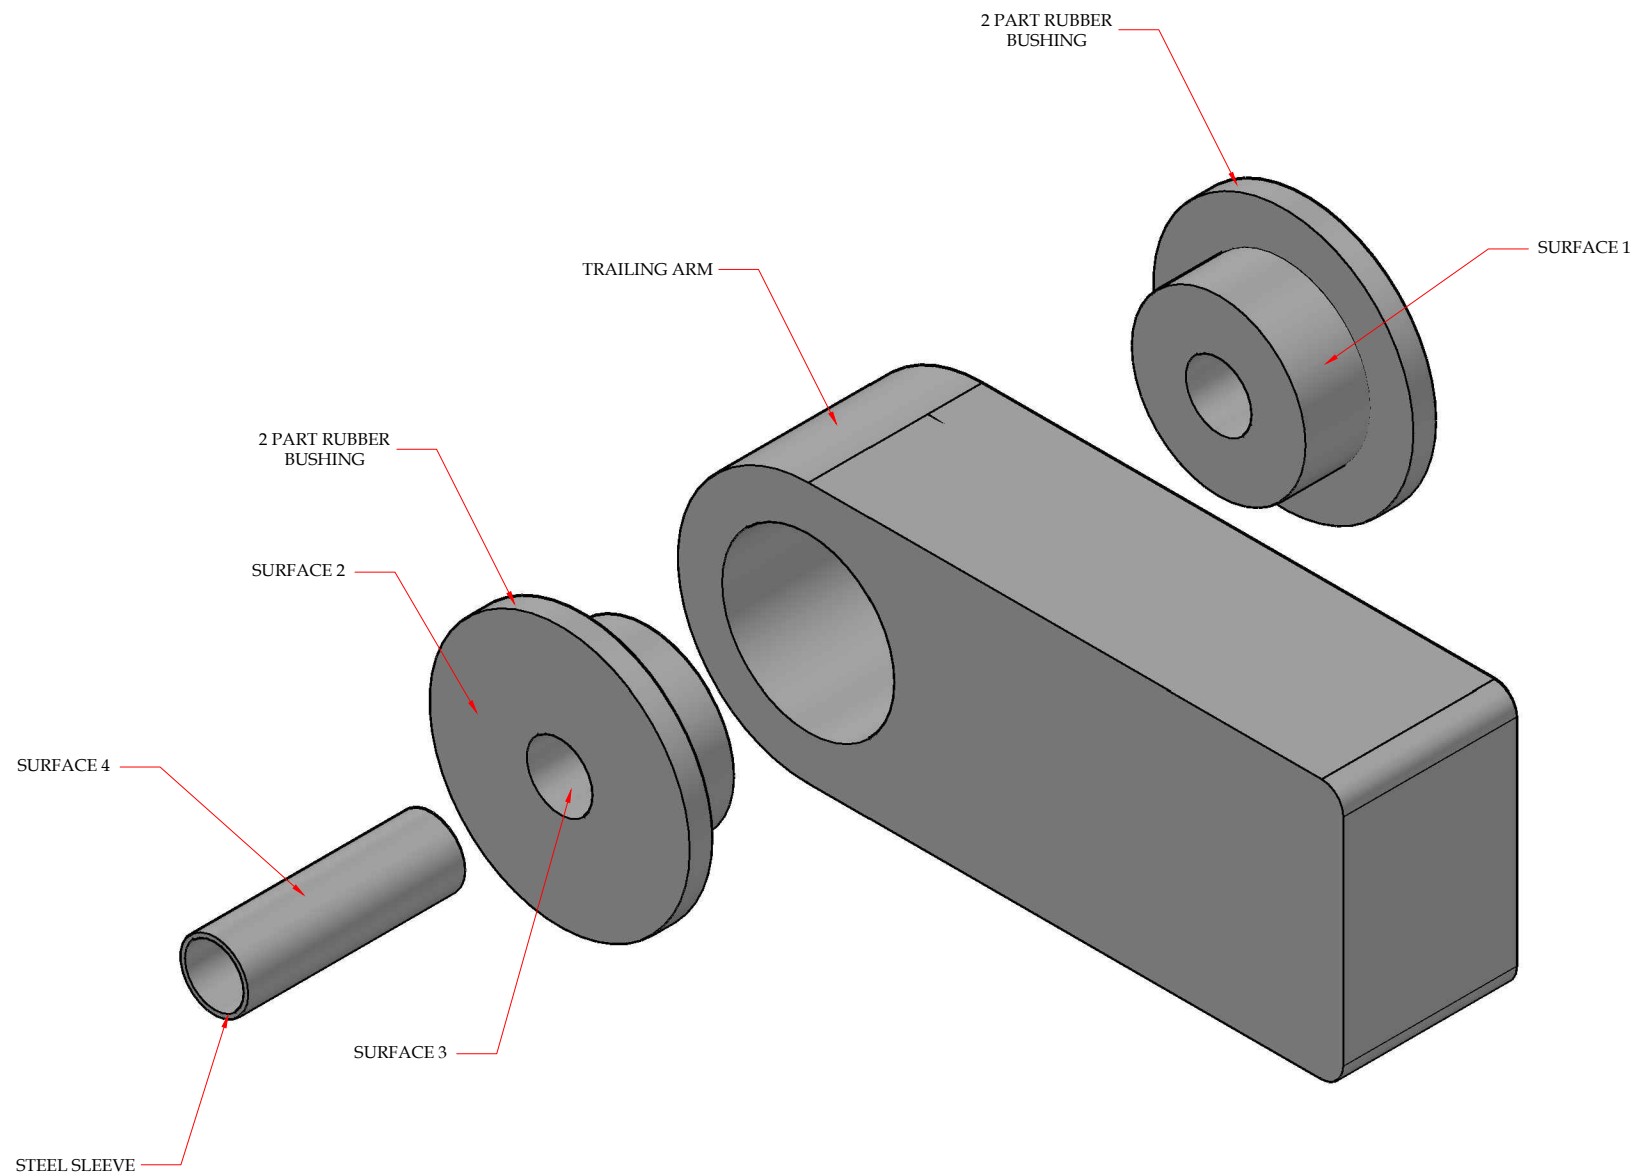

FIG.6
1. Apply a small amount of the grease provided in the kit to Outer Surface #1 of the rubber bushings to facilitate smooth installation, as shown in FIG. 6.
3. Apply grease to Inner Surface #3 of the rubber bushings and to Outer Surface #4 of the steel sleeves, as shown in FIG. 6. Install the steel sleeves into the bushings. Apply a small amount of grease to the outer flange surface (Surface #2) of each bushing, as shown in FIG. 6.